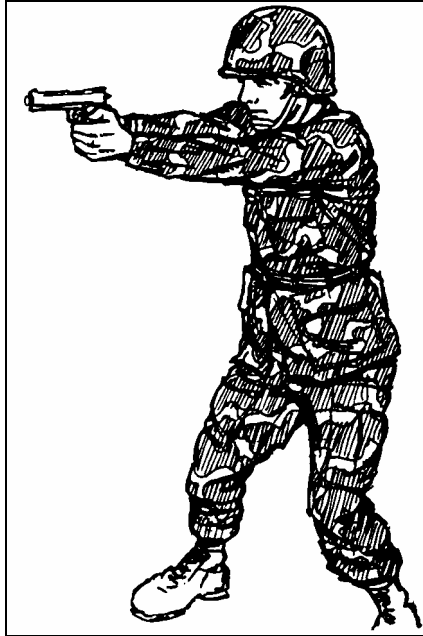

Figure 2-17. Traversing to the front.
(3) *Traversing to the Front* (Figure 2-17): The upper body turns to the front as the left arm straightens out. Both arms are straight forward.